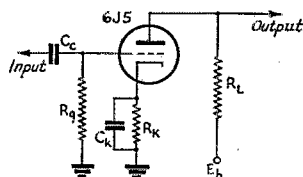
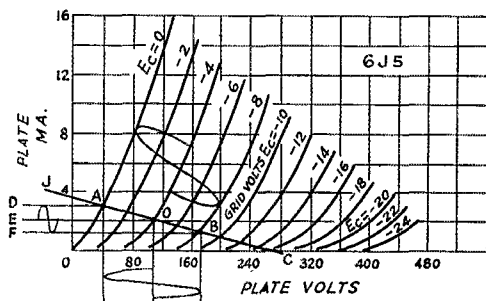

Fig. 1—Triode resistance-coupled amplifier circuit.
Fig. 2 — Family of plate-voltage vs. plate-current characteristic curves for the Type 6J5 triode tube.
THE design of a resistance-coupled amplifier is a relatively simple operation involving considerably less formula juggling and mental exertion than computing all the deductions subtracted from your pay check these days. The information given in previous installments of this series, plus some added information on the practical use of vacuum-tube characteristic curves, will permit the ready calculation of all required design values for the resistance-coupled amplifier shown in Fig. 1.
As an illustration of the method used in arriving at the first of these objectives, let us assume that the maximum peak-to-peak signal delivered to the grid of the amplifier of Fig. 1 from the preceding stage is 8 volts. It is necessary to place the load line on the curves in such a position as to permit the signal to swing over the linear portion of the characteristic curves. Therefore the signal must not swing into the curved portions at low plate-current values, nor must it swing into the positive grid distortion region. In the case of the 6J5 triode curves the least value of bias that can
1) What should the total plate load resistance, R_p , be for maximum undistorted voltage gain in the amplifier of Fig. 1, using the characteristics shown in Fig. 2?
From Fig. 2 we find that the slope of the load line is
By dropping perpendicular lines to the coordinates from the points A, O, and B in Fig. 2, which represent the average bias and the extremities of grid-signal swing, the peak-to-peak plate voltage and current can be determined by simple subtraction.